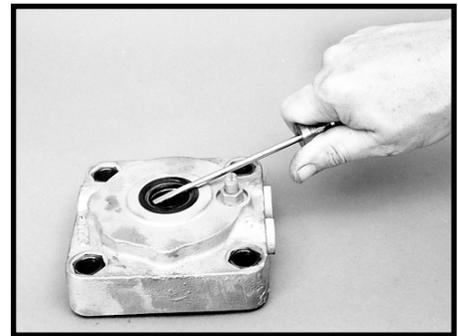

Figure 65
26. Remove and discard the valve housing seal ring (9) from the valve housing (8)
27. Remove and discard the dirt and water seal (4). SEE FIGURE 65.